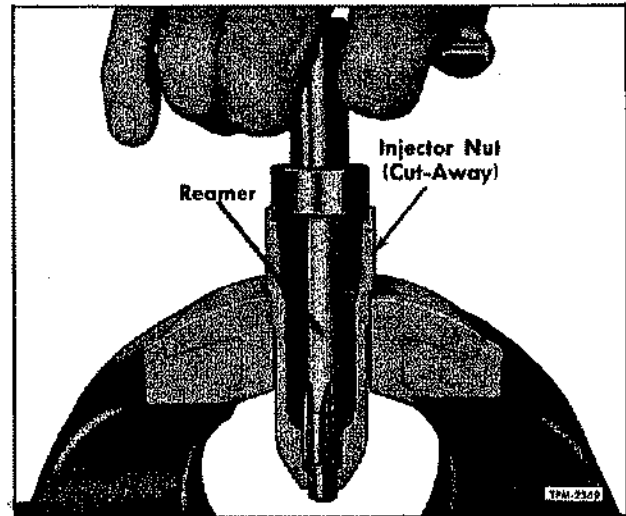

Figure 23A—Cleaning Injector Nut Tip Seats
5. Carefully insert reamer in injector nut as shown in figure 23A. Turn reamer in a clockwise direction to remove carbon deposits. Use care in reaming to prevent removing any metal or setting up burrs on the spray tip seat. Then, wash in clean fuel oil and dry with compressed air. Carbon deposits on the spray tip seating surface of the injector nut will result in poor sealing and consequently fuel leakage around the spray tip.